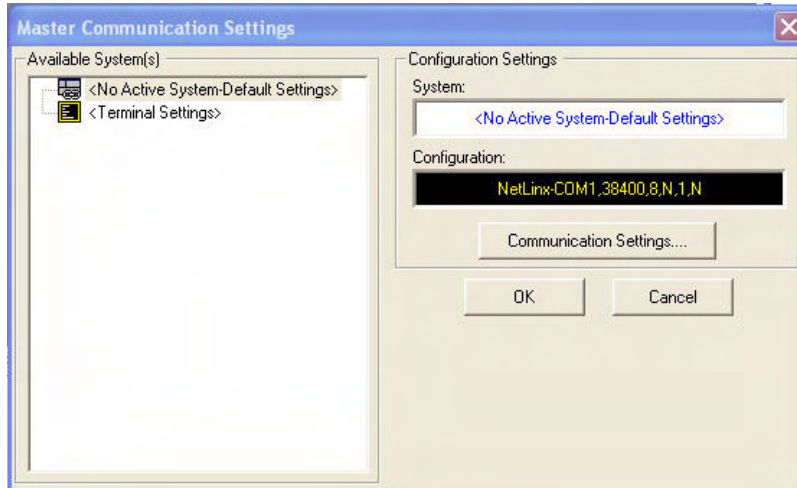

FIG. 34 Master Communications Settings dialog
- 2.** In NetLinx Studio, select **Settings > Master Communication Settings**, from the Main menu to open the *Master Communication Settings* dialog (FIG. 34).